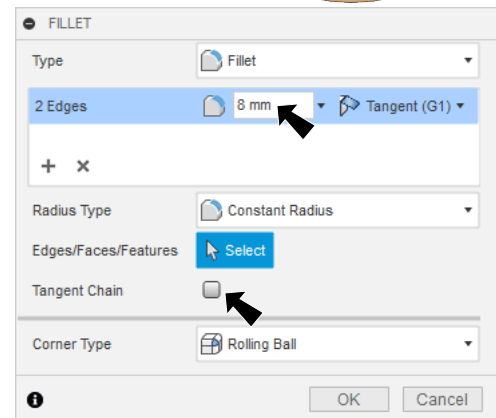

Fig. 36
Step 3. In the Fillet panel set, **Fig. 36**